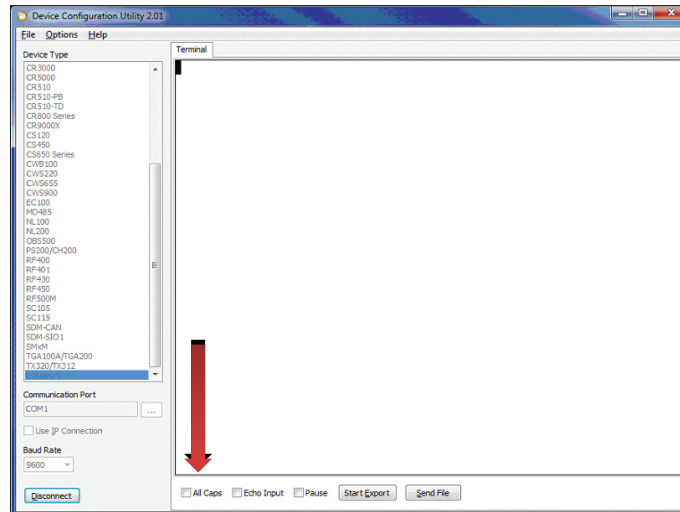

Figure 3. All Caps is unchecked in this Terminal window.
- At bottom of the Terminal window, uncheck “All Caps” (see Figure 3).